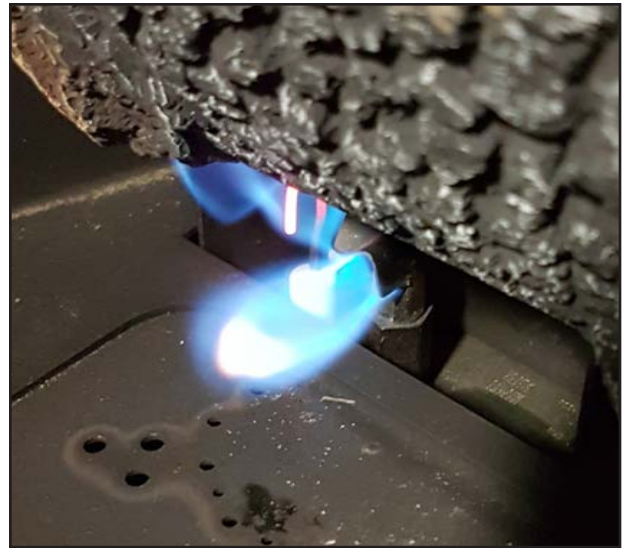

Figure 29. Correct Pilot
8. Reinstall the burner, log set, and glass door. Also refer to SECONDARY INSTALLATION - LOG SET INSTALLATION in your Owner's Manual. When re-installing the burner, ensure that the burner to pilot hood and shield relationship is similar to what is shown in Figure 29.
12. Relight the pilot and confirm the flame properly covers the flame sensor (Figure 29). Should the pilot require adjustment, turn the adjustment screw (see page 30) clockwise to decrease or counterclockwise to increase until the correct flame is achieved.